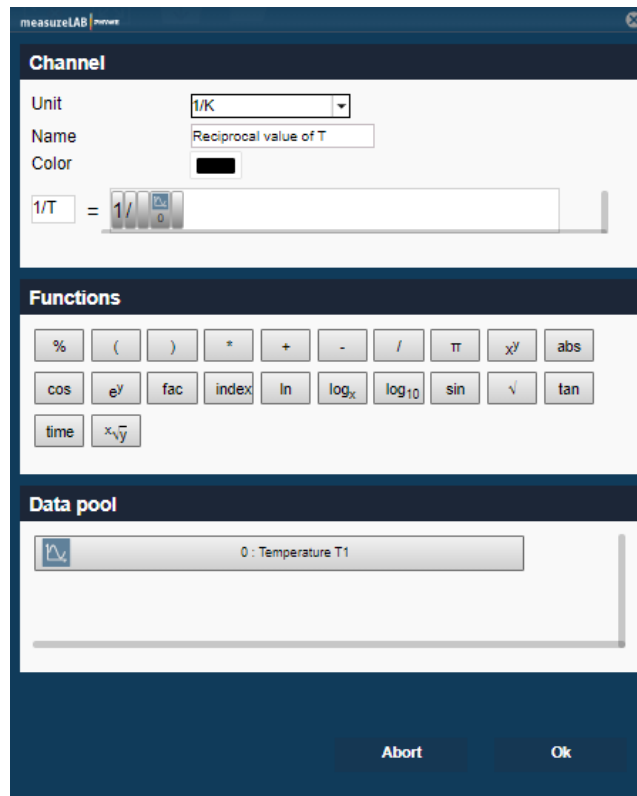

Figure 21: Channel conversion
You can also convert your measurement files using the ‘channel conversion’ symbol (5) in the top bar of the data pool. Drag your to be converted measurement files into the channel conversion window (Figure 21) and use the functions to convert your values.